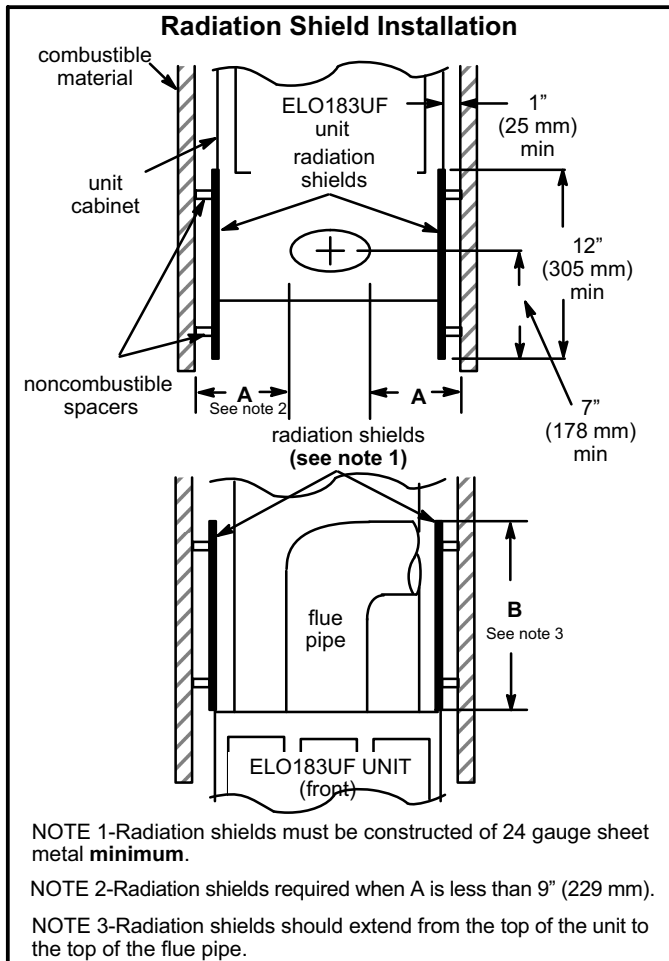

Figure 11
**When flue pipe is installed at less than minimum clearance listed in table 2, radiation shields must be installed. See figure 11.**